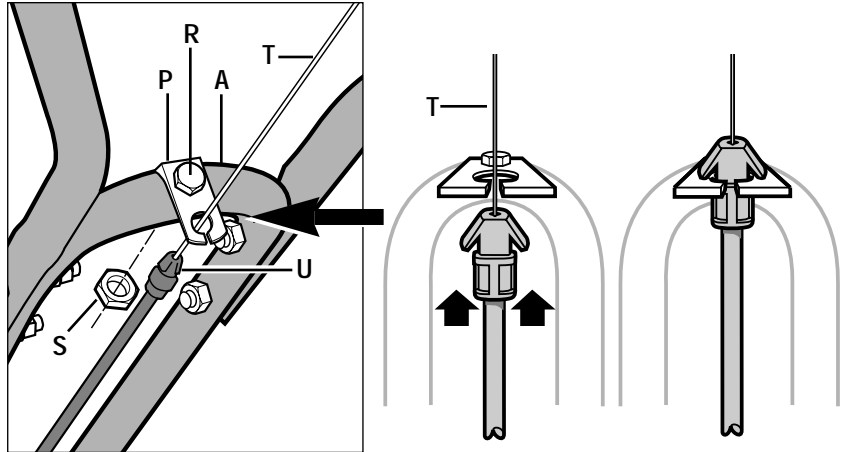

Fig. 2-4: Installing forward clutch cable bracket and cable.
1	Bracket, forward clutch cable (see P, Fig. 2-4, page 8)
1. Place the forward clutch cable bracket (P, Fig. 2-4) on the handlebar support (A). Attach the cable bracket using a 1/4"-20 x 1-1/4" hex hd. screw (R, Fig. 2-4) and 1/4"-20 hex locknut (S). Tighten securely.
2. Carefully unwrap the forward clutch cable (the cable without a knob attached to it) from its shipping position and slide the thin cable wire (T, Fig. 2-4) into the slot in the cable bracket. Push the cable connector (U, Fig. 2-4) up through the hole in the bracket until the groove in the connector snaps into place on the bracket.